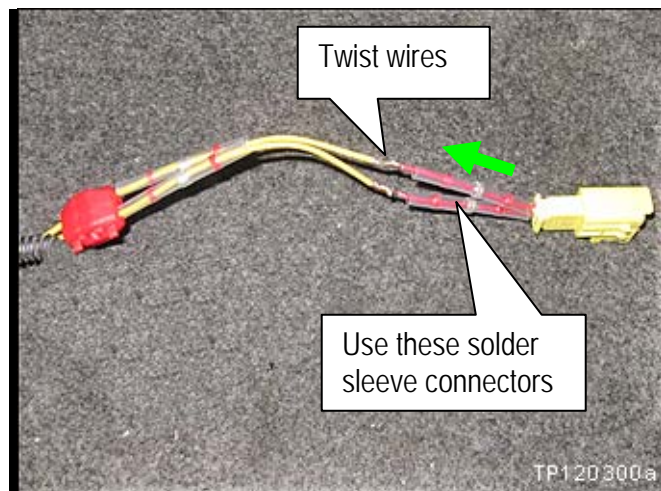

Figure CR16
- Twist the wires of the new SAB connector together with the wires of the SAB harness as shown in Figure CR16.
- Slide the solder sleeve connectors from the connector side over the twisted wires (see Figure CR16).